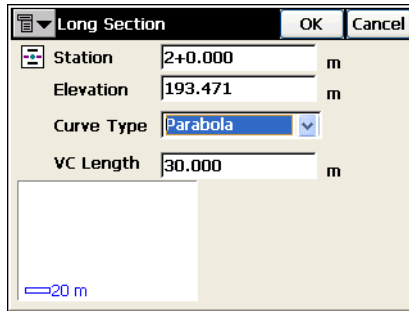

Figure 3-53. Long Section
- **Insert:** opens a blank *Long Section* screen in which to insert an element at the selected location in the list (Figure 3-53 on page 3-45).
- **Add:** opens a blank *Long Section* screen for adding an element to the end of the list (Figure 3-53 on page 3-45).